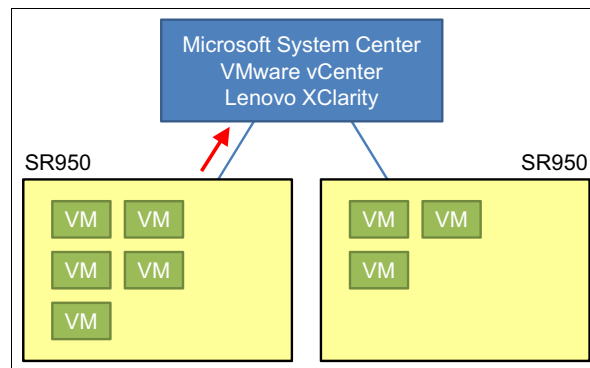

Figure 7-23 RAS event reports up the chain
- A RAS event that is detected on the server (see Figure 7-23) is reported up the chain to Microsoft System Center, VMware vCenter or XClarity.